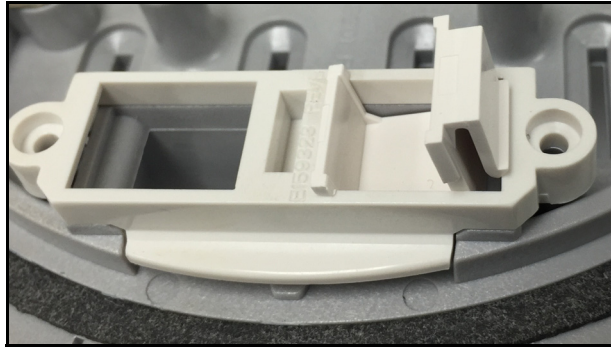

Figure 8.29: Removing Blank Panel
The blank panel in the Figure 8.29 is shown partially removed in the figure (accomplished by pressing the tab on the right side).
8. Insert the keystone jack(s) where the blank(s) was removed, with its latch facing the same direction (see Figure 8.29), making sure it locks in place. A properly latched jack should stand straight up, perpendicular to the base, and there shouldn't be a large gap visible between the jack and the port opening (see Figure 8.30).